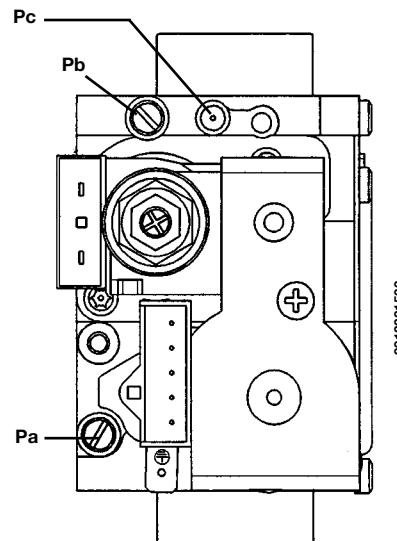

Figure 11
The procedure for calibrating the pressure regulator may vary according to the type of gas valve fitted (HONEYWELL or SIT; see figure 11).
- connect the positive pressure test point of a differential (possibly water-operated) manometer to the gas valve pressure test point (**Pb**) (Figure 11); connect, for sealed chamber models only, the negative pressure test point of the manometer to a "T" fitting in order to join the boiler adjusting outlet, the gas valve adjusting outlet (**Pc**) and the manometer. (The same measurement can be carried out by connecting the manometer to the pressure test point (**Pb**) after removing the sealed chamber front panel);
- check that boiler feeding dynamic pressure, as measured at the inlet gas valve pressure test point (**Pa**) (Figure 11) is correct (37 mbar for propane gas **G.31**, 20 mbar for natural gas **G20**);